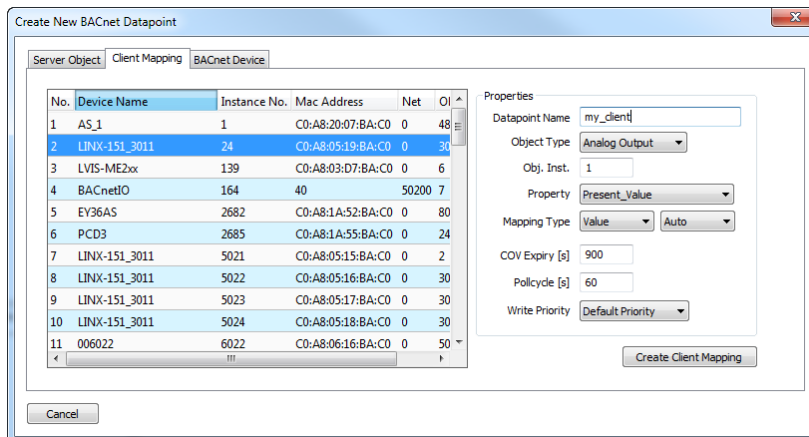

Figure 121: Create Client Mapping Dialog
- Right-click in the data point list and select **New Datapoint...** in the context menu. This opens the **Create New BACnet Point** dialog as shown in Figure 121.